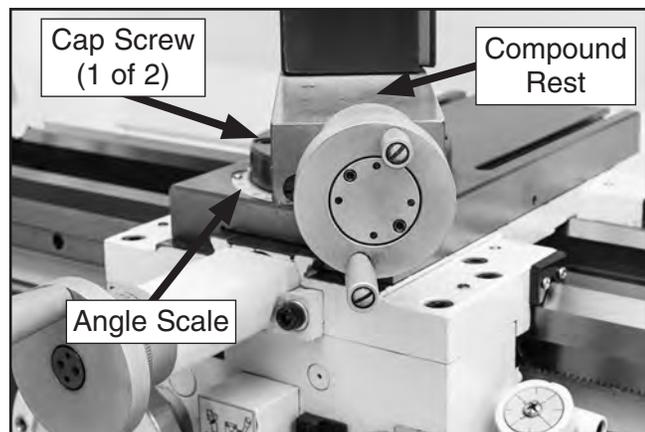

Figure 54. Compound rest angle adjustments.
1. Loosen two cap screws at the base of compound rest (see **Figure 54**).